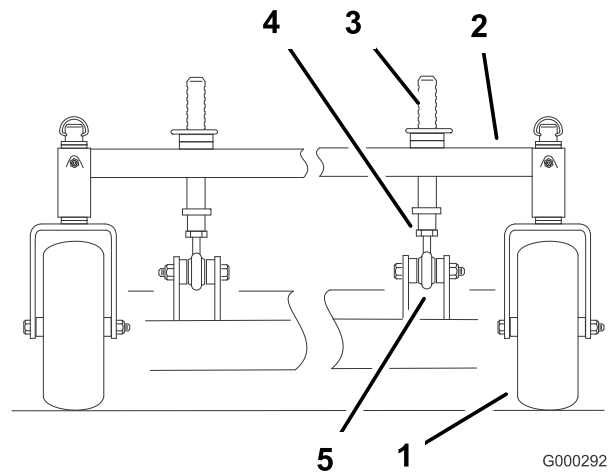

Figure 59
2. To raise the front of the deck, loosen jam nut and rotate the front pin clockwise (Figure 59).
3. To lower the front of the deck, loosen jam nut and rotate the front pin counter clockwise (Figure 59).
4. Position the blades front-to-rear. Measure at C and D locations (Figure 59) from a level surface to the cutting edge of the blades.
6. Tighten the jam nuts (Figure 59).
1. To change the front-to-rear pitch, the front height-of-cut posts can be adjusted (Figure 59).